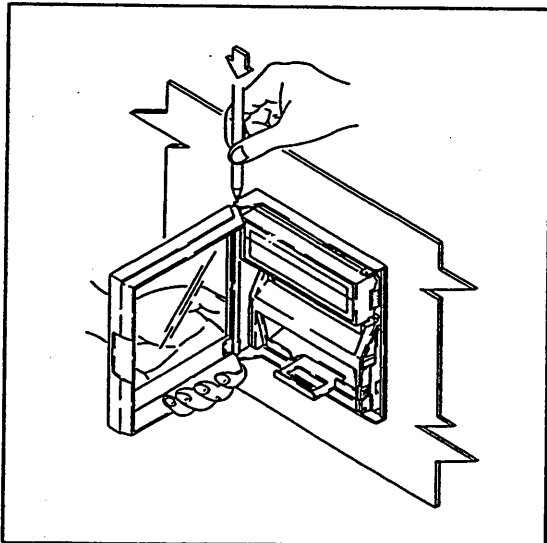

Figure 6-14.
- i) First the recorder front door should be removed. While inserting a pointed tip (like a pen tip) into the shaft hole of the door, move the door to remove it. Be careful not to drop the door when it is removed (see Figure 6-14).